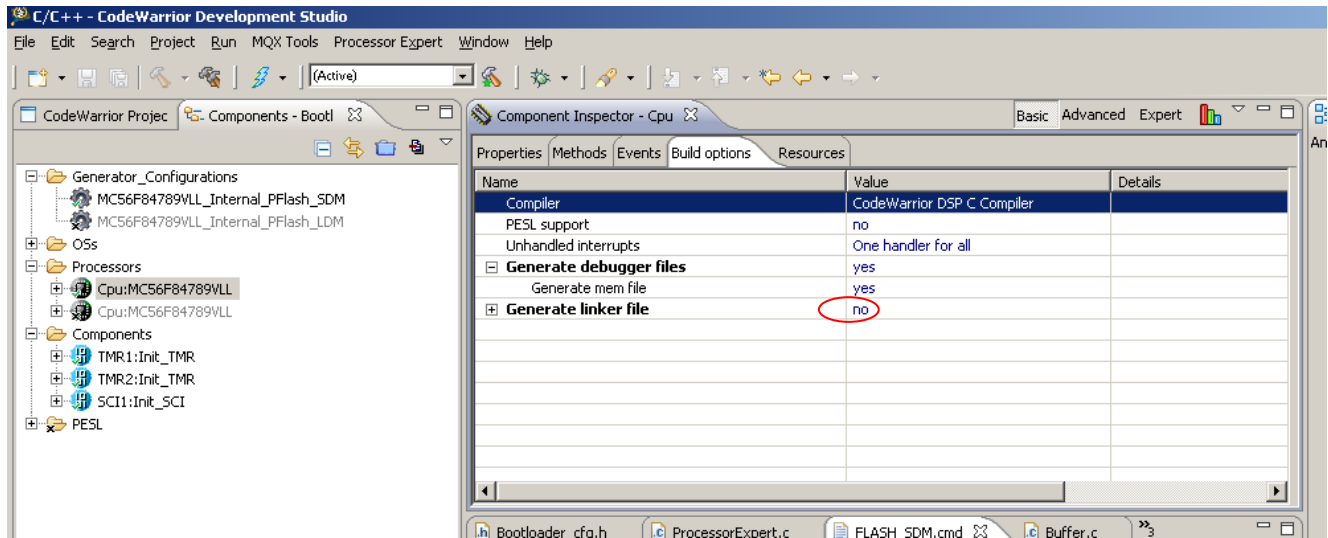

Figure 15. PE Option to prohibit PE from generating linker file
- The linker file generated by PE should be prohibited to update automatically. Figure 15 shows the setting. The memory for code can't go beyond 0x1F3FF in program flash as indicated in Figure 2. The start address of the user application and the delay time must be entered in the address range 0x1F3FD-0x1F3FF.